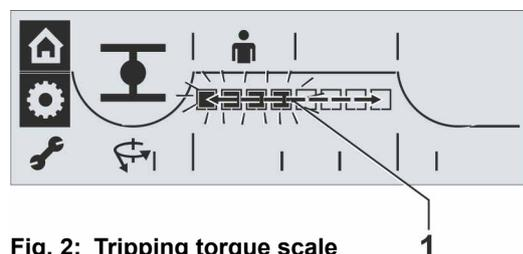

Fig. 2: Tripping torque scale
2. Confirm; press Drive Controller. The symbol for tripping torque (1) in end position CLOSED (2), as well as the scale (4) with the setting range between 30 % and 100 % will be displayed. The segments (black triangles) (3) indicate the current setting, one segment represents a step of 10 %. The illustration on the right indicates that the adjusted tripping torque amounts to 60 % of the maximum torque.
4. Turn Drive Controller, to change the setting (for actuator classes A and B: 30 % – 100 %; for actuator class C: 50 % – 100 %). For the setting values per level, refer to the table above. The scale (fig. 2, item 1) indicates the modification.